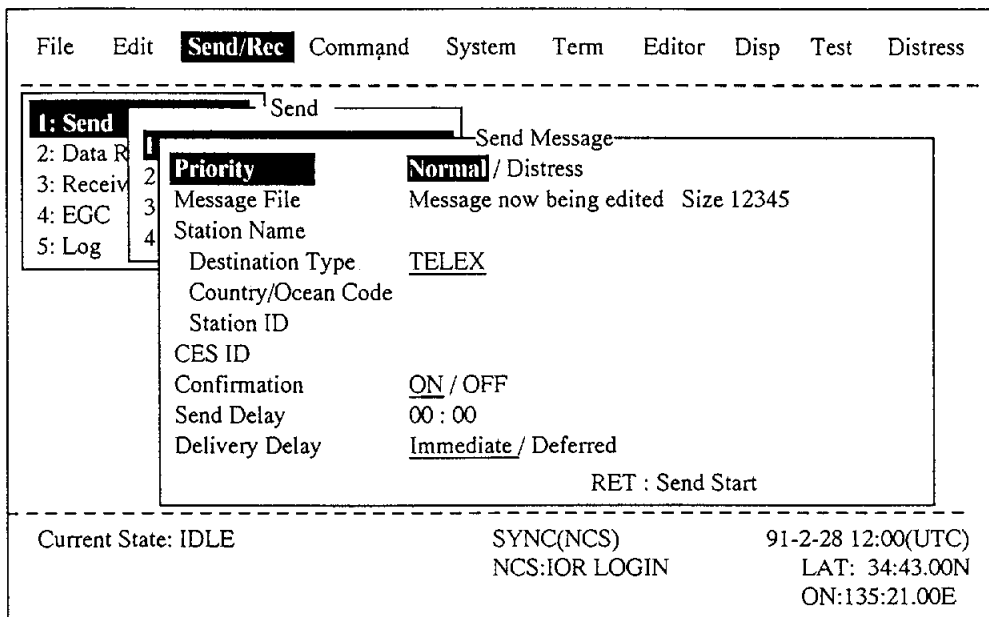

Figure 6-13 Send Message Screen
4. Press the **Enter** key twice. The screen should look similar to Figure 6-13. The cursor is on the Priority line.